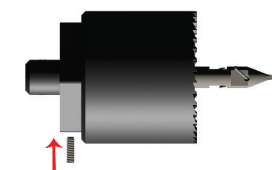

Figure 4
3.0.2) Insert pilot bit into adaptor and lock in place with set pin (see Figure 4).